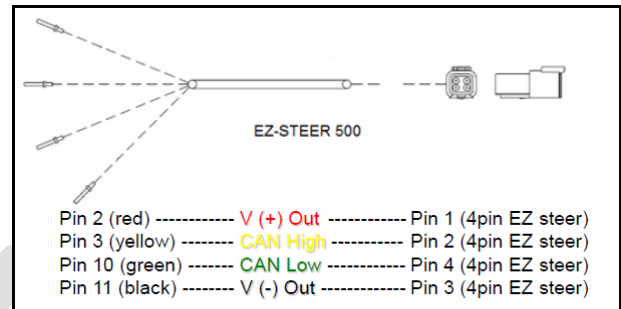

Figure 5.4
- The standard cable that comes with the EZ Guide 250 is shown in figure 5.4. To enable EZ Steer to be used with the screen, the EZ Steer add on cable must be purchased. The Part Number for this cable is **73321220**. The cable diagram shown in figure 5.4 shows the Pin connections to add EZ Steer to an EZ Guide 250.